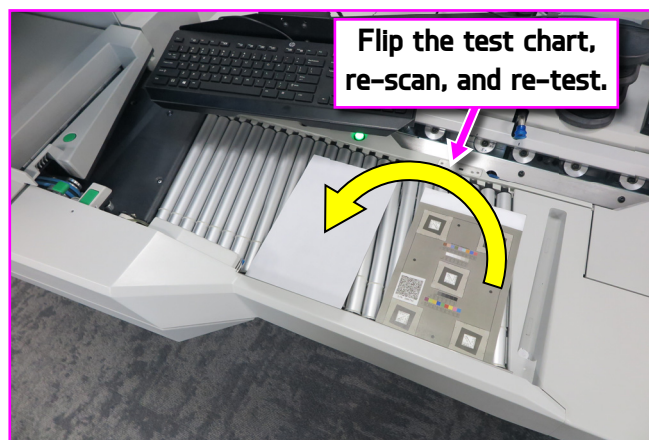

Figure 3-37: Test with chart face-down
7. With a passing result, repeat steps 5 and 6 with the chart face-down (Figure 3-37).